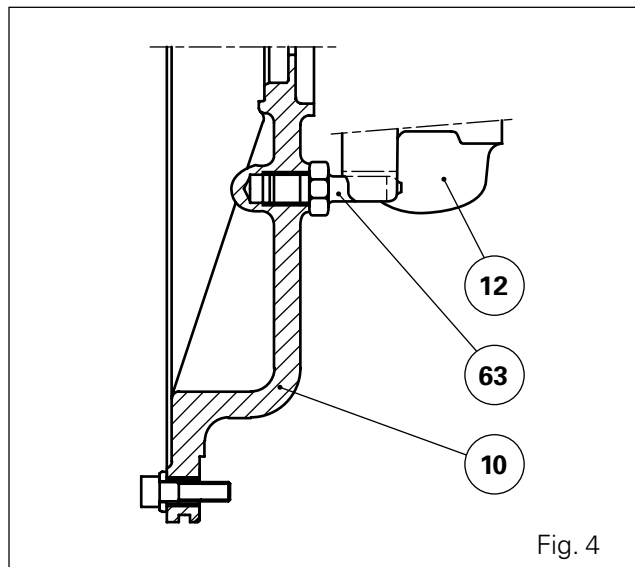

Fig. 4
11. Grease the lip of seal (57). Place protector P/N 3378012M2 (see § F) on shaft (7). Screw two guide studs in opposing locations on the spacer and reinstall closing plate (10), with finger (63) in the slot of pump body (12) (Fig. 4).
12. Install long screws (62) in the same holes as those provided for centring pins (61). Install screws (5), torque to 36 - 46 Nm.